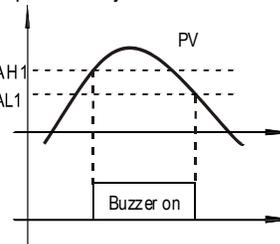
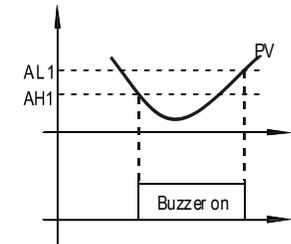

Figure 6. Absolute high alarm
Figure 7. Absolute low alarm
Note 13. Alarm setting. When the SSR is used as the control output, the J1 relay can be used as an alarm (when outy is set to 0, 2, 3, or 6). The controller offers two alarm settings for the J1 relay. One is controlled by parameters AH1 and AL1, and the other is controlled by AH2 and AL2. AH1 and AH2 are the temperatures to turn the J1 relay on; AL1 and AL2 are the temperatures to turn the J1 relay off. When AH1(2) > AL1(2), the alarm is set for absolute high alarm as shown in Figure 6 below. When AH1 (2) < AL1(2), the alarm is set for absolute low alarm as shown in Figure 7 below. Users can press > key to temporarily turn off the alarm. The alarm will be on again if the alarm set temperature is reached again. To permanently deactivate the alarm, set AH1=AL1 or AH2=AL2.